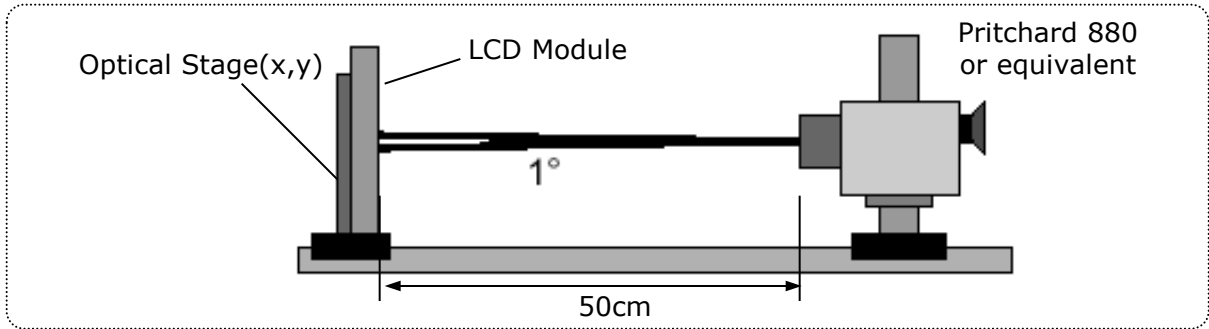

FIG. 7 Optical Characteristic Measurement Equipment and Method
- Surface luminance** is the luminance value at center 1 point (1) across the LCD surface 50cm from the surface with all pixels displaying white. For more information see Figure 7. **(By PR880)**